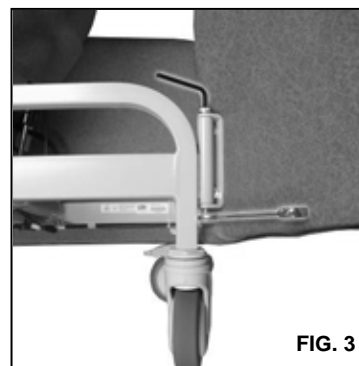

FIG. 3
4. Screw on the nylon lock-nuts and, using the wrench provided, tighten the lock-nuts to the bracket. (FIG.3)
8. Insert the two screws through the holes in the "IV U-Bracket". (FIG.3)
9. Screw on the nylon lock-nuts and, using the wrench provided, tighten the lock-nuts to the bracket. (FIG.3)
4. Place the "IV Bracket" over the cross brace, reinsert the screws, and tighten to a snug fit. (FIG.3)
4. Using a ½" wrench & a 3/16" allen wrench unscrew the swing-arm hinge bolt. (FIG.3)
3. Secure the bracket to the chair frame using the (2) screws previously removed in step 1. (**FIG.3**)